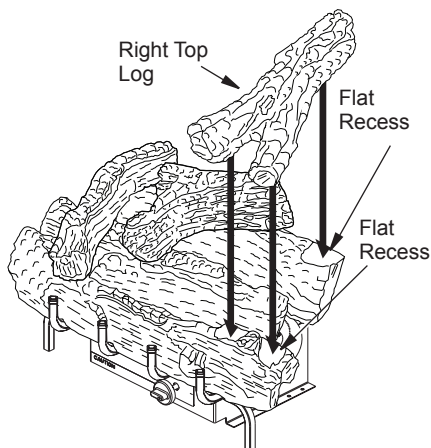

Figure 22 - Installing Right Top Log for 24" and 30" Log Set
6. **For 24" and 30" models:** Place the right top log as shown in Figure 22. This log will fit on the matching flat recess on the front, middle, and rear logs.